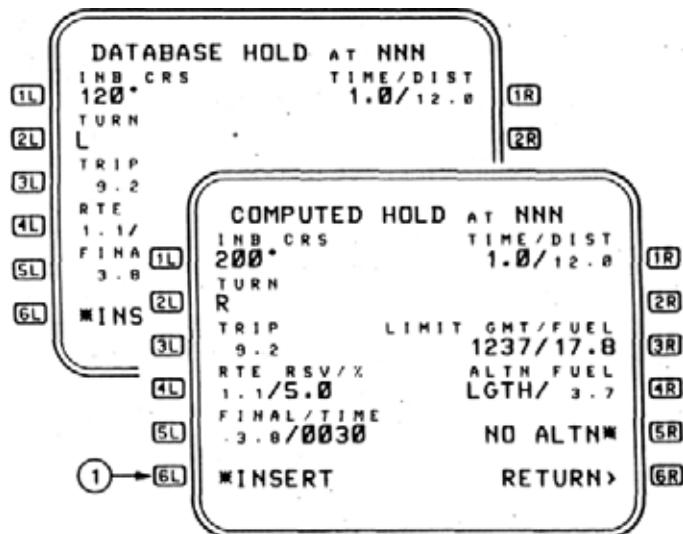

Figure 2-124
1. **DATABASE HOLD AT NNN** - Hold parameters are database derived, are a reflection of published or procedure specified parameters, and have not been changed by the pilot (Figure 2-124).
Figure 2-124 is a combination of a DATABASE HOLD at NNN, and a COMPUTED HOLD at NNN.
If the hold page is left prior to activation of the *INSERT prompt, all entered data is erased. Prior to activation of the *INSERT prompt, any entered data can be cleared by the CLR function. (**1**, Figure 2-124).
6R RETURN - Pressing this LSK returns the display to the accessing LAT REV page. If the RETURN > prompt is pressed before the*INSERT prompt, all entered data on the page is erased (**(2)**, Figure 2-124).